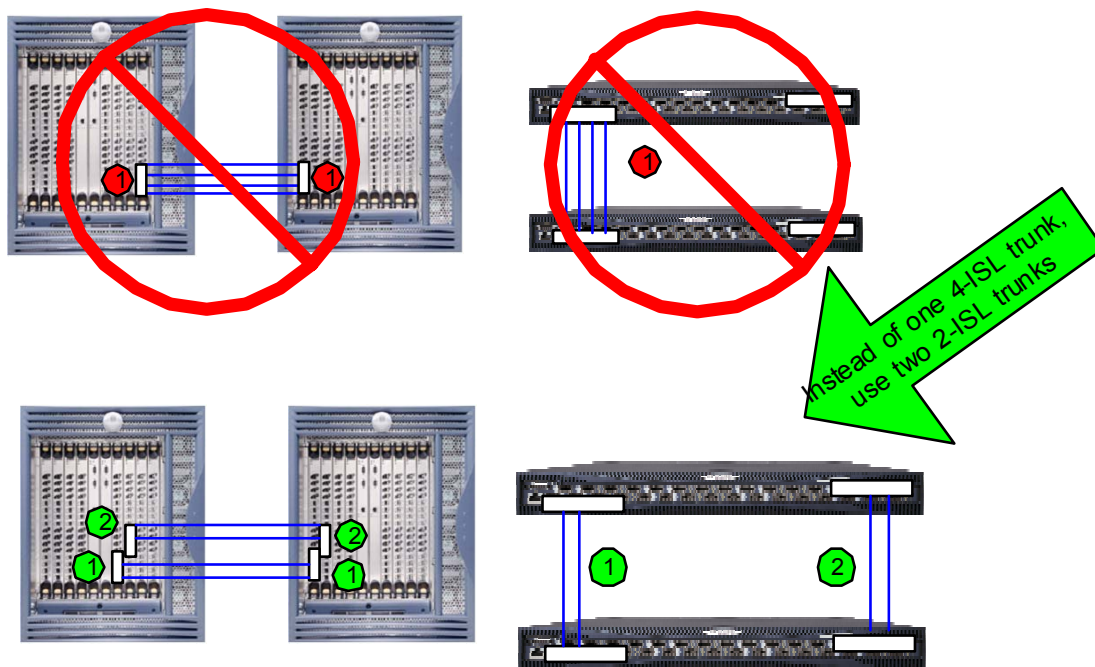

Figure 2-11 Use redundant trunk groups when possible for the SilkWorm 3900 and 12000.
- a) For the SilkWorm 12000, connect the ISLs/trunks diagonally across the quads. Do not connect more than one ISL to the same switch port card unless it is part of a trunk (see Figure 2-11, Figure 2-12, and Figure 2-13).
Guideline: For the SilkWorm 12000 and 3900, create redundant trunking groups when possible. This protects against multiple ISL failures, optimizes performance, and for the SilkWorm 12000 protects against the rare occurrence of a blade failure. This means that instead of using a single 4-ISL trunk to connect two SilkWorm 12000s or 3900s, utilize two 2-ISL trunks, as shown in Figure 2-11.